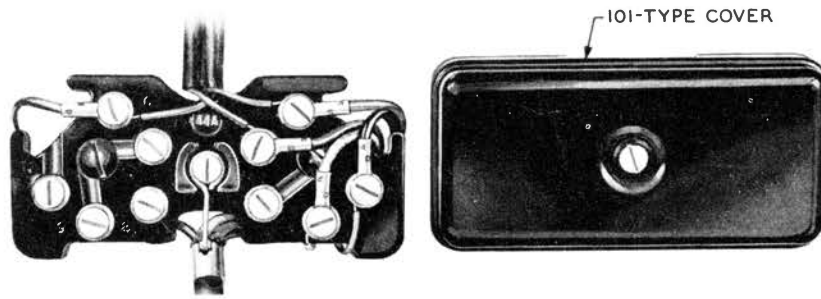

Fig. 24 — 5-Conductor Cord Terminated on 44A Connecting Block
8.03 Where desk-type telephones having mounting cords with five or more cord conductors are installed, 44A-type connecting blocks should be used (see Fig. 24).